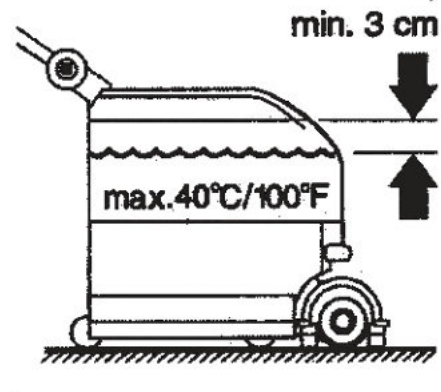

Figure 2
1. Fill the tank (14) with a solution suitable for the work to be performed.
2. Do not fill the solution tank completely, leave a few centimetres from the edge (Fig. 2).
5. Adjust the inclination of the handlebar (8) with the lever (9) to reach a comfortable position.